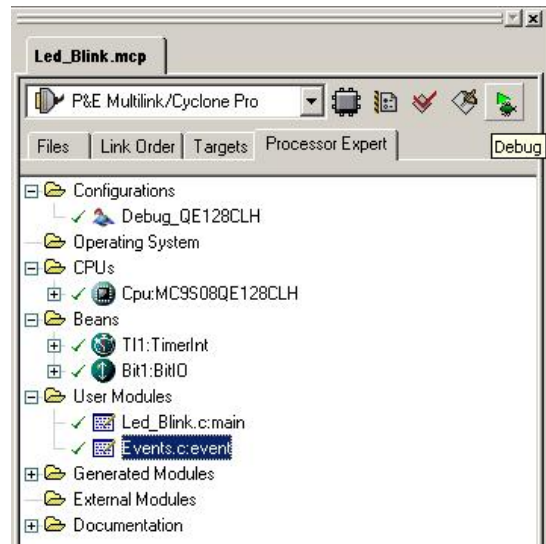

Figure 25. Debug - LED Blink Project
19. Test the project on the DEMOQE128 board. Connect the board to the PC and press the debug button as shown in Figure 25.